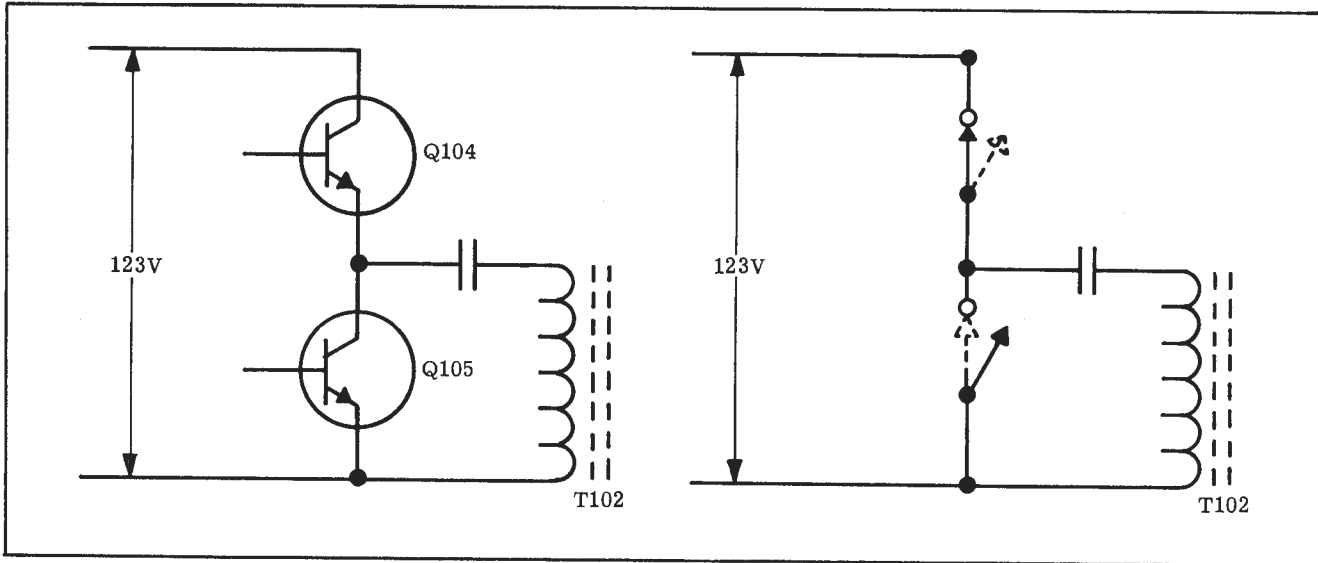

Figure 5-1. Simplified Transistor Switching Diagram
a. The line voltage is half wave rectified by diode CR101 and filtered by capacitor C102. The resultant dc voltage varies with the line potential from approximately 130 to 170V DC. This voltage is regulated at 123V DC by the series regulator which uses Q103 as its series pass element. This regulated voltage appears across capacitors C105 and C110. This voltage is then chopped at approximately 18 kHz by transistors Q104 and Q105. These transistors act as two switches as shown in figure 5-1.